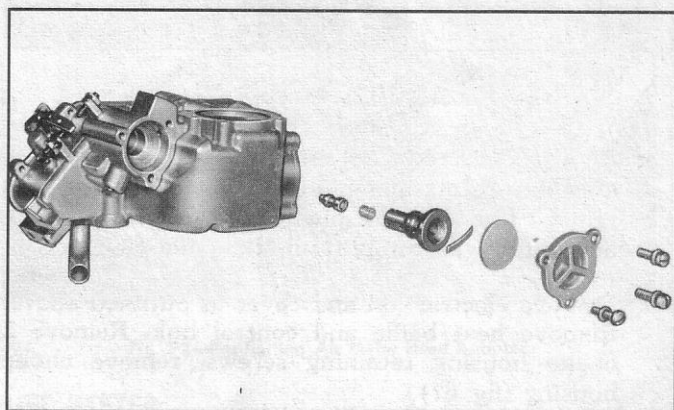

Fig. 65—Installing Spill Plunger Assembly
5. Reverse removal procedure, Steps 1 thru 3, to install valve and sleeve assembly (fig. 65).